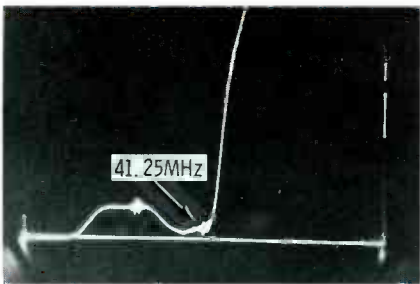

Fig. 9 The ideal IF curve (for any color receiver) was obtained with this Admiral chassis after alignment using the SM152.
9. Restore the **sweep width** and **tuning** to normal and examine the curve, comparing it to Fig. 9. If the 45.75-MHz marker is not at ap-